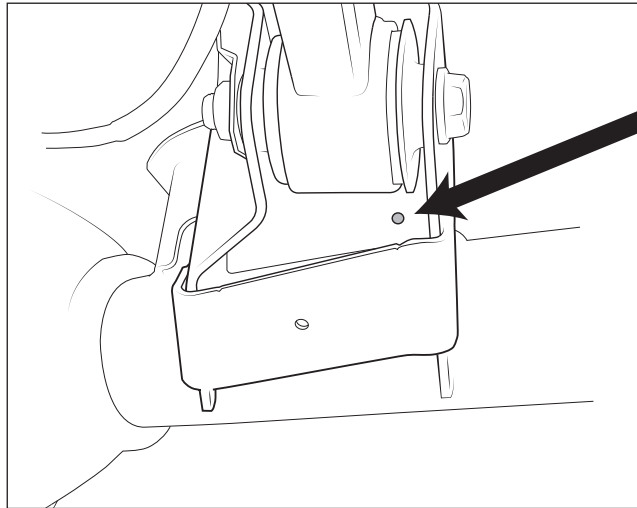

Figure 8
- a. Drill the existing hole in the control arm bracket to 1/2" and treat for corrosion (fig. 8).